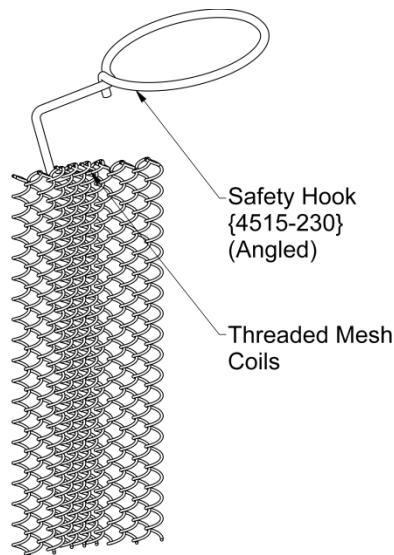

Figure 9
- Step 4:** Continue to thread the Hook through all the bunched Coils as shown in Figure 9.